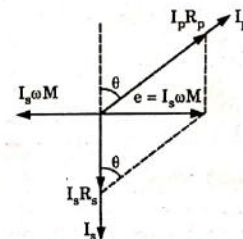

Fig. 3.18.2. Phasor diagram for mutual inductance method.
7. Fig. 3.18.2 represents the phasor diagram under balance conditions.